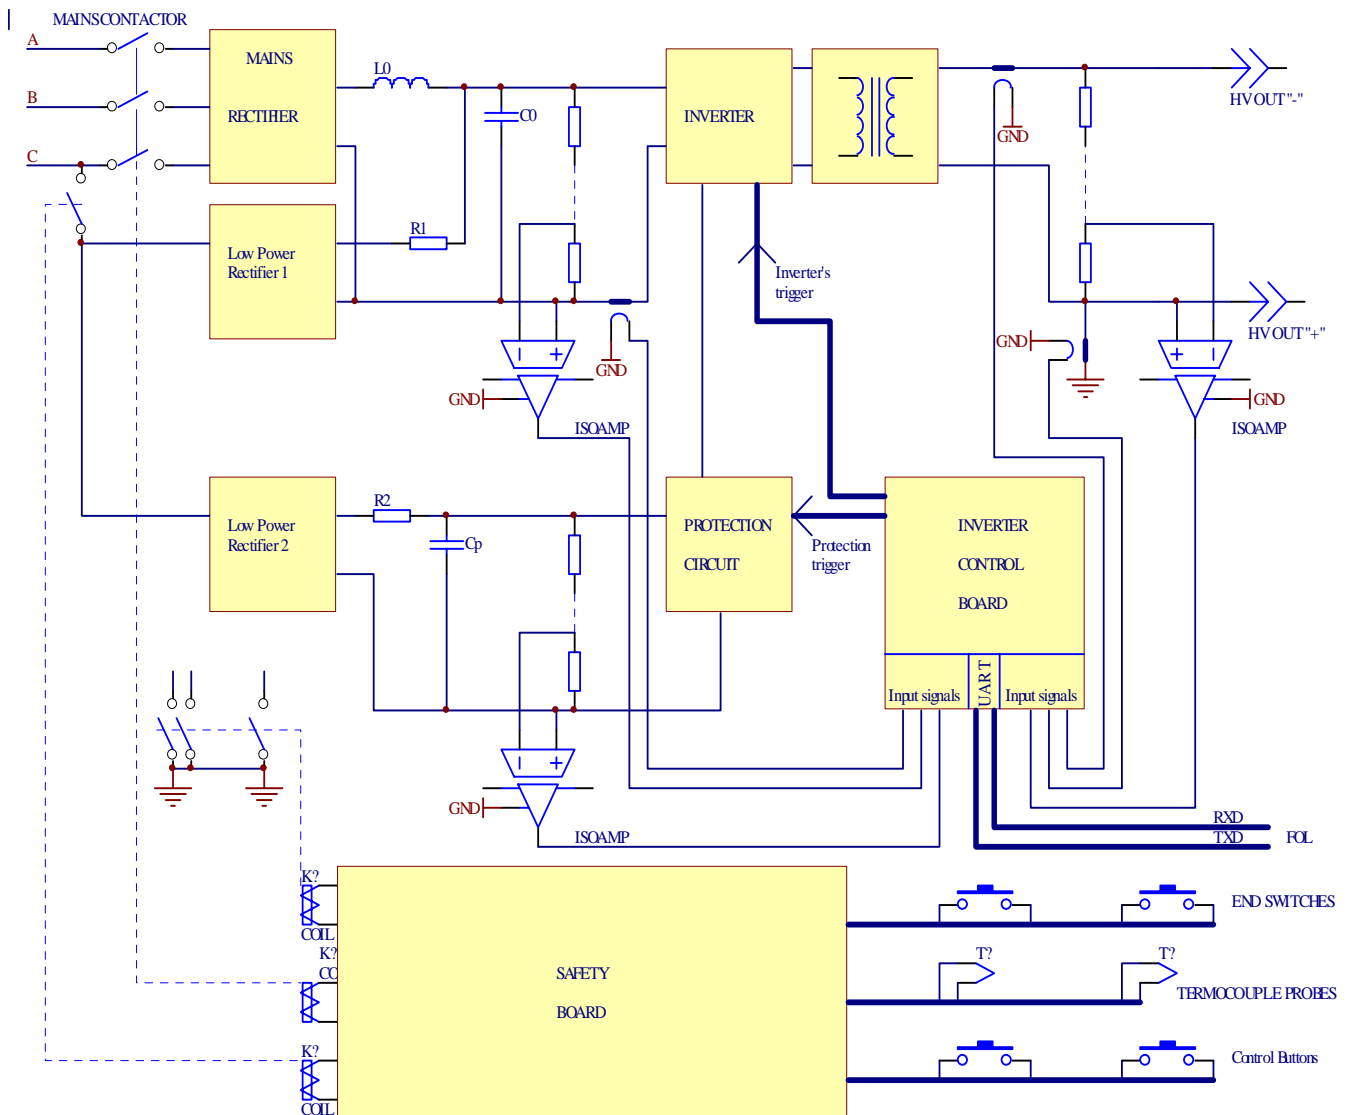

Fig. 1. Simplified diagram of the PPS-100 control
The simplified diagram of PPS-100 is shown in Fig. 1. One can see that control system of this source is divided functionally in two independent parts – the Safety Board (SB) and Inverter Control Board (ICB).
In this state the voltage is supplied of the cabinet by pressing “ON” button on control panel. Just after pressing this button SB switches on the low-power rectifier charging the capacity C_0 of rectifier filter through R_0 resistor up to the magnitude of mains voltage (Fig. 1). After time interval $\tau = 5 \cdot R_0 \cdot C_0$ the high-current mains contactor is closed applying the voltage to three-phase rectifier. It prevents from the transient, charging C_0 to the doubled mains voltage.